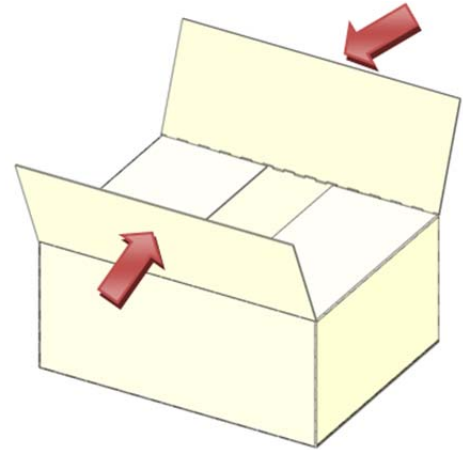

Figure-25
- ii. Fold Major Flaps In As Shown In **Figure-25**